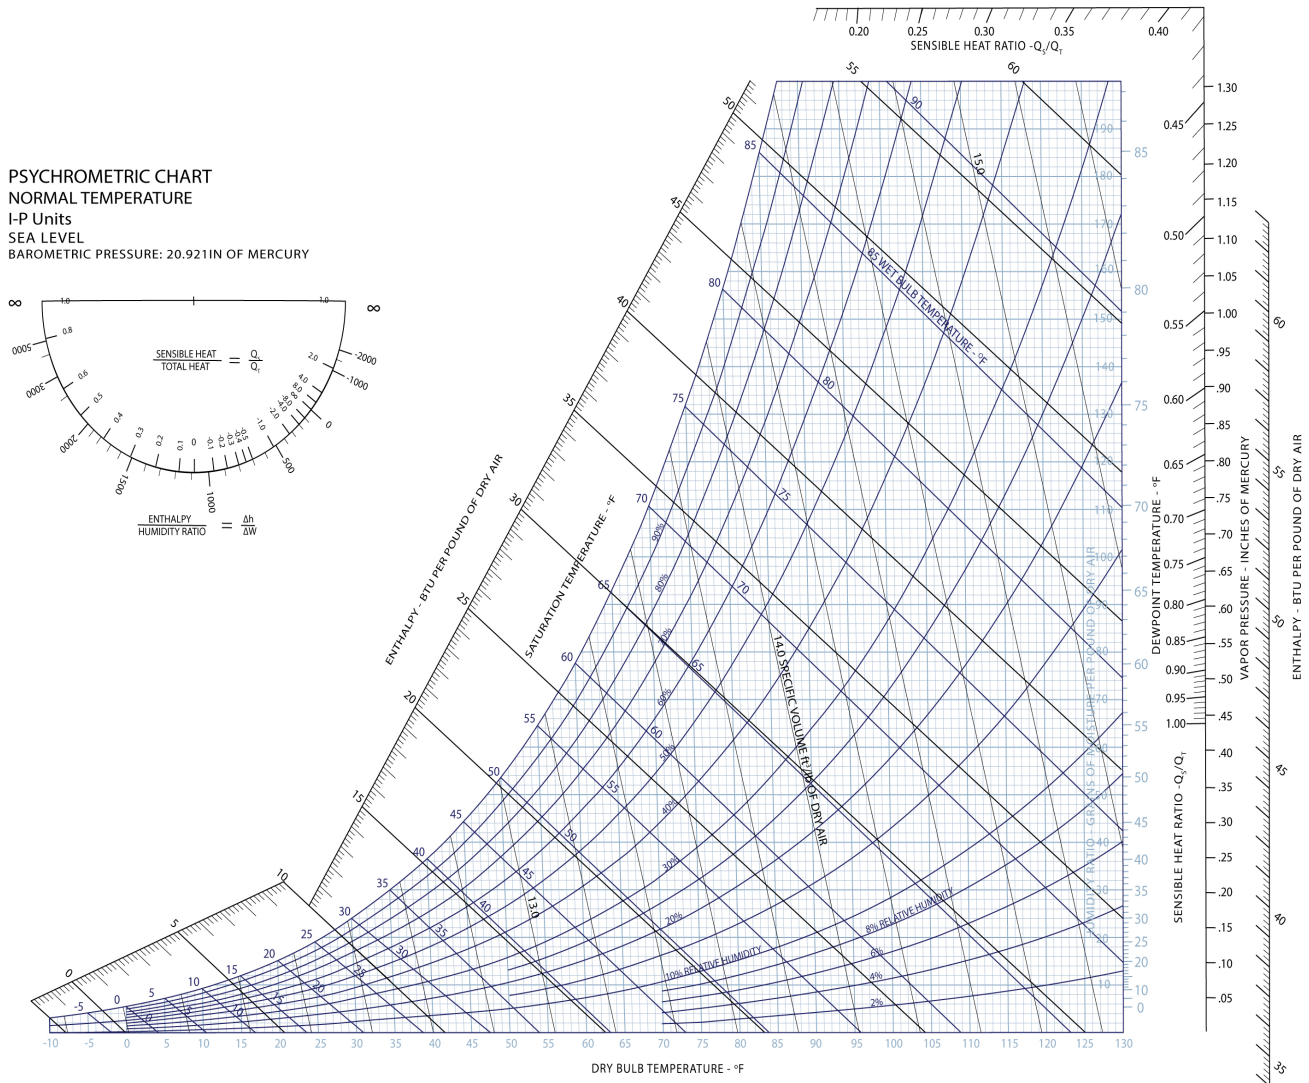

Figure 1: Psychrometric Chart
C) Absolute humidity (moisture content): Absolute Humidity can be expressed in several different units, commonly as Grains/lb or Lbs of water /lb of dry air. Absolute humidity in Grains/lb of dry air, dry air is shown in Figure 1 on the right hand vertical axis. From there, the lines with $X = \text{constant}$ run horizontally across the chart right to left.